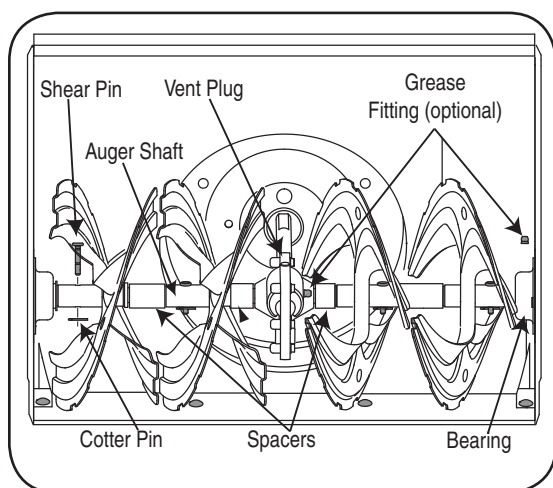

Figure 6-2
At least once a season, remove the shear pins on auger shaft. Spray lubricant inside shaft, around the spacers. Also lubricate the flange bearings found at either end of the shaft. See Figure 6-2.
- The augers are secured to the spiral shaft with shear pins and cotter pins. If the auger should strike a foreign object or ice jam, the snow thrower is designed so that the pins may shear. See Figure 6-2.